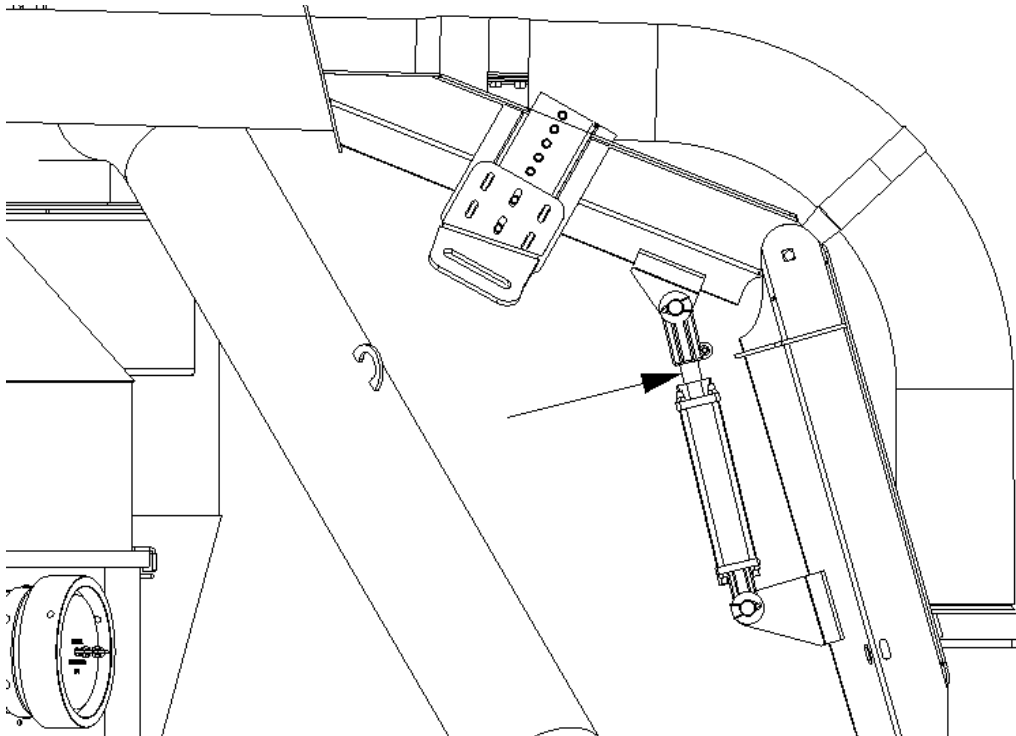

Figure 7-26: Boom lift cylinder exposed rod end
3. Lubricate the exposed rod end of the cylinder with anti-seize or an equivalent lubricant at the location shown in **Figure 7-26**.